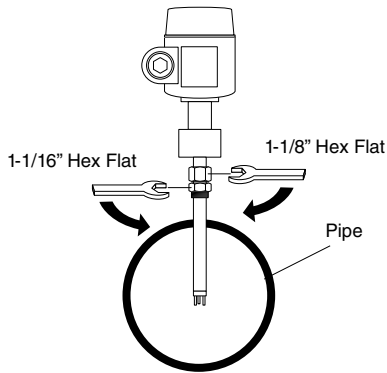

Figure 18. CMP Adjustable and Fixed Probe Mounting
- 3) Apply 1-1/4 turns from hand-tight to provide the seal as shown in Figure 18.